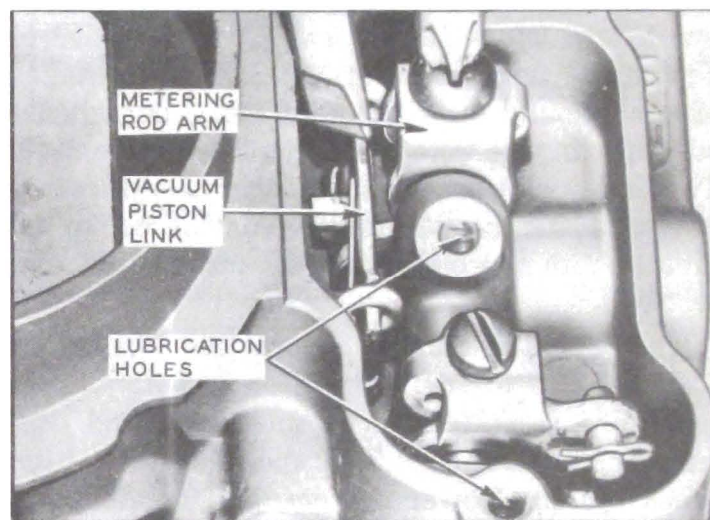

Figure 3-39—Adjusting Metering Rods
18. To adjust metering rods, back out throttle stop screw, fully close throttle valves and press down on vacuum piston link until metering rods bottom. While holding rods down and metering arm tongue against lip of vacuum piston link, carefully tighten metering arm set screw. See figure 3-39.